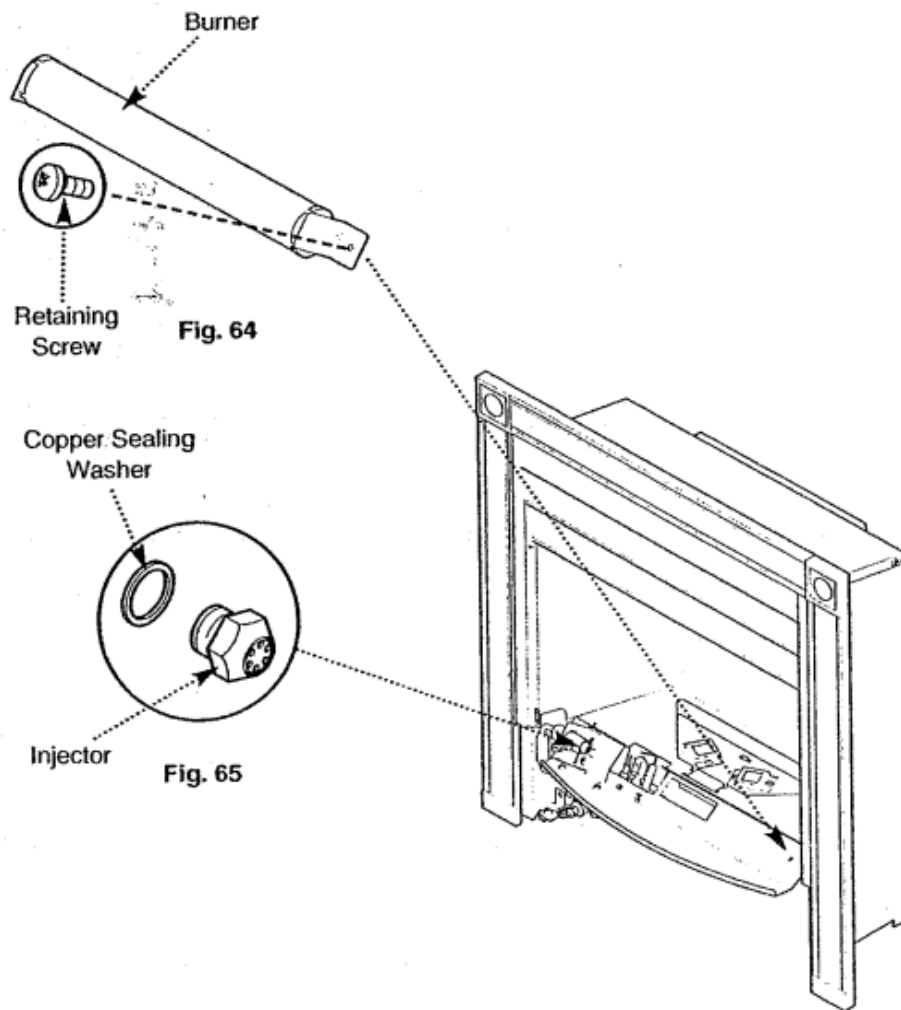

Fig. 64,65
1. Undo the screw holding the burner to the controls mounting plate, and disengage the burner inlet from the injector (Fig. 64).